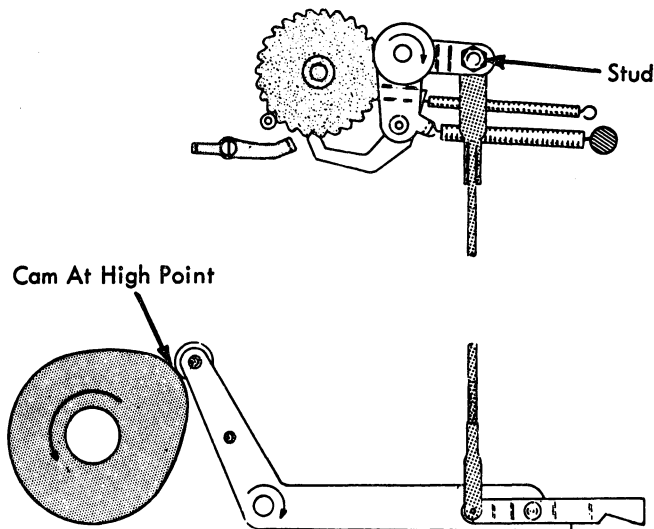

FIGURE 223. Index Link Stud Adjustment
- c. Adjust the index link stud forward or back in the slot of the pawl carrier so that one full tooth of motion is given the index pawl after it starts to drive the platen (Fig. 223).